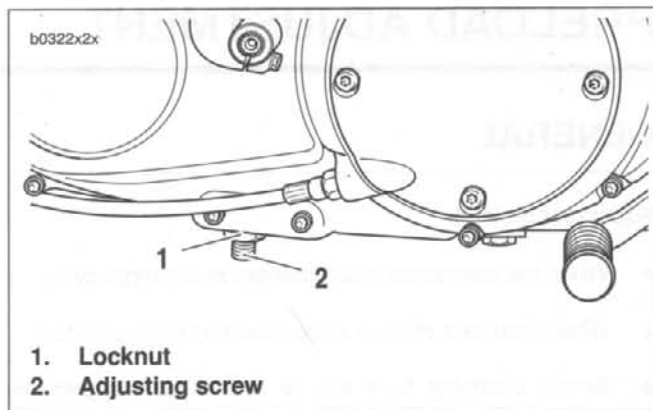

Figure 1-47. Primary Chain Adjustment
1. See Figure 1-47. Loosen locknut (1).
2. Turn adjusting screw (2):
3. Tighten locknut (1) to 20-25 ft-lbs (27.1-33.9 Nm).